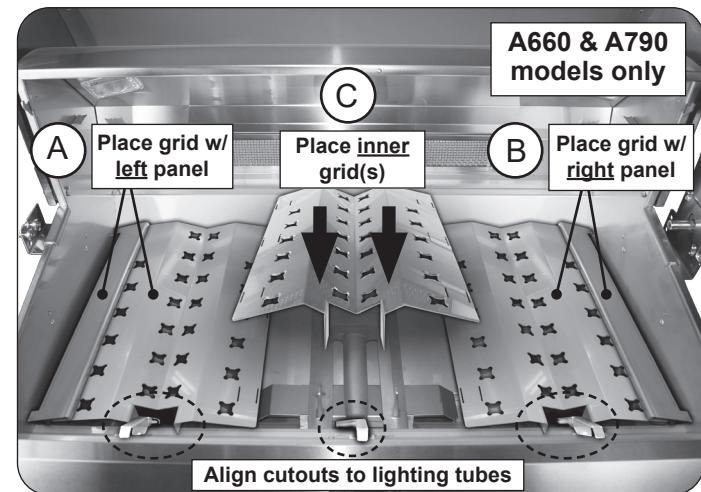

Fig. 31-2 Install flavor grids
1. Locate the flavor grid with the pre-attached left panel (see Fig. 31-2, A).
2. Carefully rest the grid onto the rear and front flavor grid rests while ensuring the flavor grid cutout clears the left-most lighting tube. See Fig. 31-2, A.
3. Locate the flavor grid with the pre-attached right panel and place it on the right side of the grill (see Fig. 31-2, B).
4. Take the inner grid(s) and install between the left and right flavor grids (see Fig. 31-2, C).